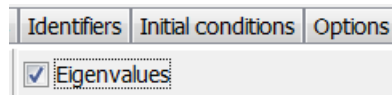
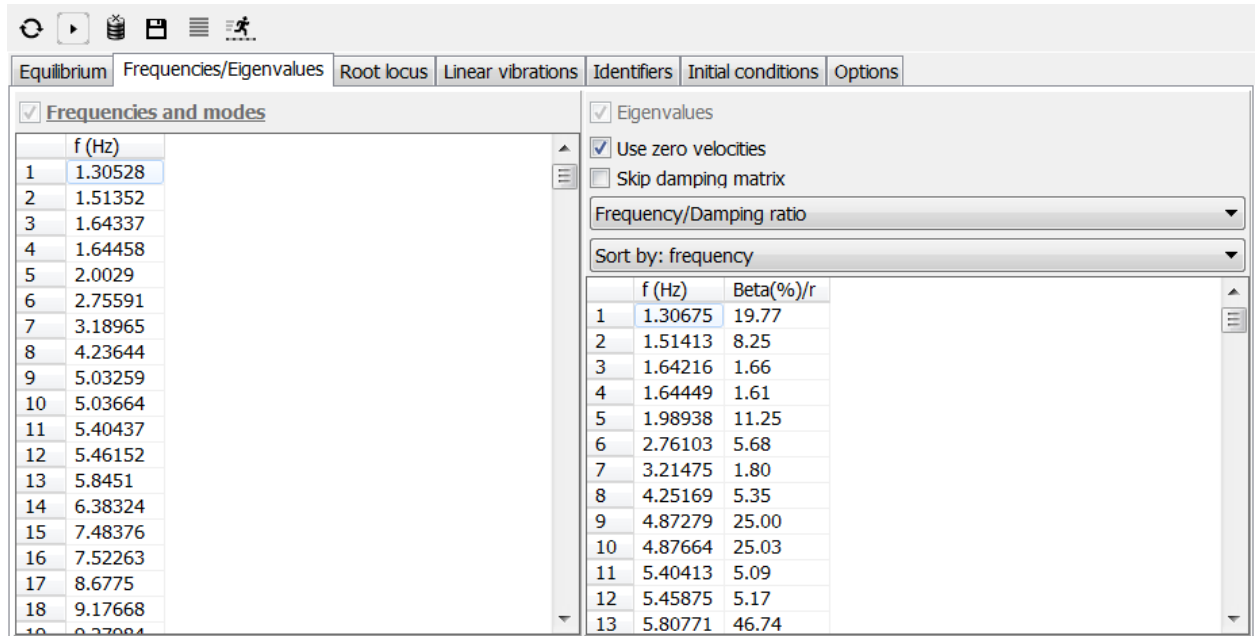

Figure 1.12. Key for eigenvalues
Figure 1.13. Natural frequencies (left) and eigenvalues (right)
5. Check the key for computation the model eigenvalues (roots), Figure 1.12, and click on the  button. The eigenvalues are located in the right part of the window, see Figure 1.13.